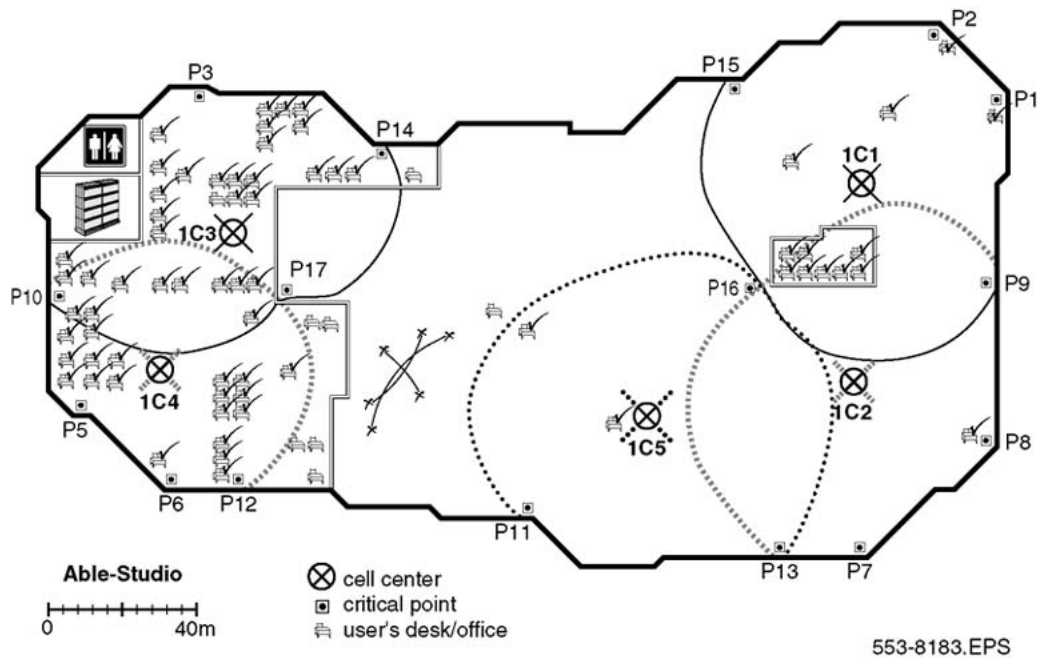

Figure 28: Cell boundary 1C5 formed by critical points P11, P13, and P16
- a new cell boundary in Figure 28: Cell boundary 1C5 formed by critical points P11, P13, and P16 on page 57